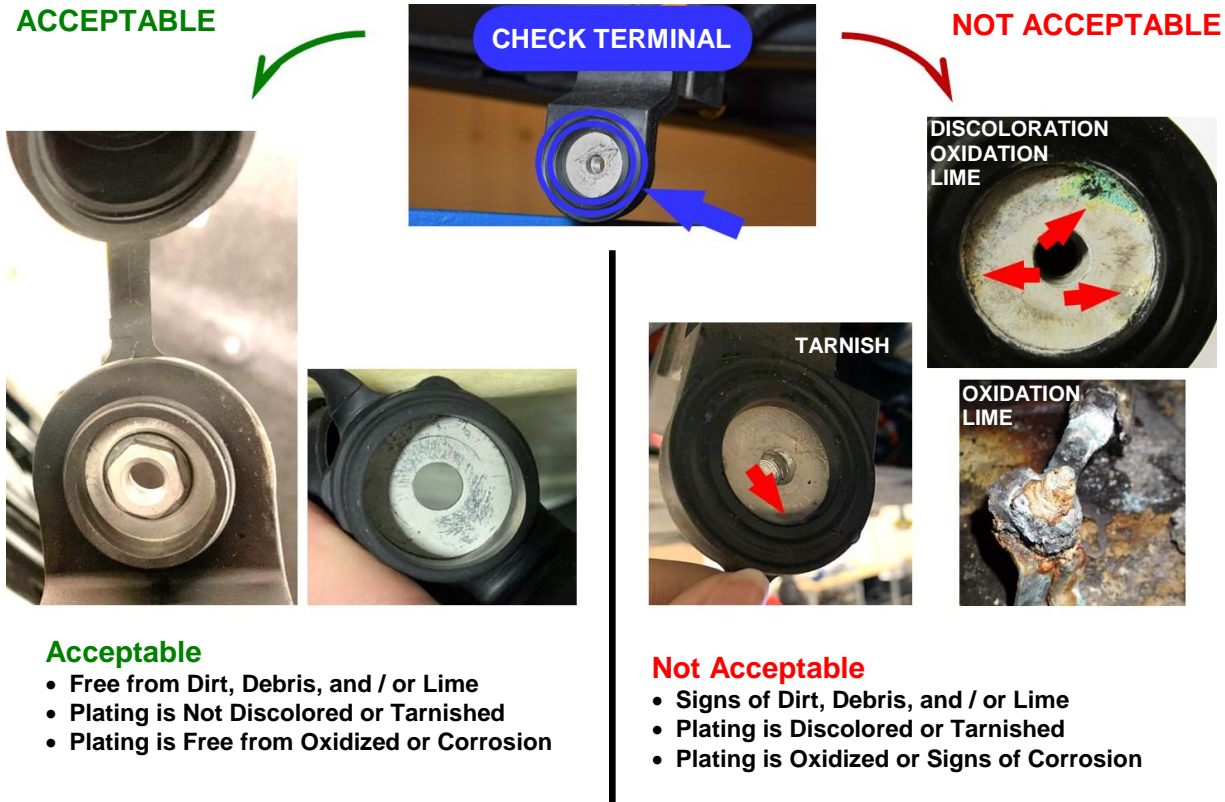

Figure 20 – Inspect 12-Volt Cable Terminal for Acceptability
8. Inspect the 12-volt cable terminal for signs of corrosion, oxidation, tarnish, discoloration, dirt, debris, and / or lime (Figure 20).
17. Inspect the 12-volt cable terminal for signs of corrosion, oxidation, tarnish, discoloration, dirt, debris, and / or lime on the terminal same as was done in **Step 8** (Figure 20).
18. Were any signs of corrosion, oxidation, tarnish, discoloration, dirt, debris, and / or lime detected (Figure 20) on either the lower or upper 12-volt cable terminals inspected in **Step 8** or **Step 17**?
NOTE: Section C is applicable **ONLY** for vehicles requiring 12-volt cables replacement due to cable terminal showing signs of corrosion, oxidation, tarnish, discoloration, dirt, debris, and / or lime as illustrated in (Figure 20).